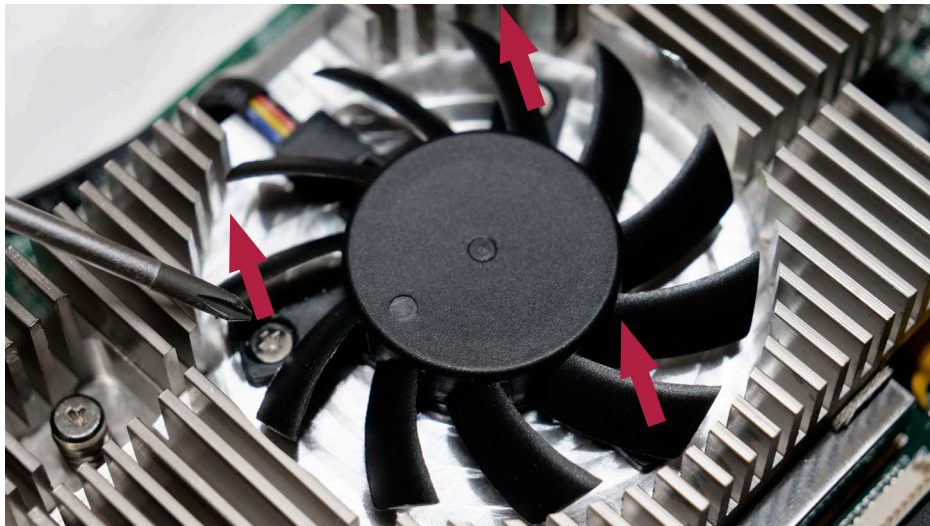

Figure 24 Remove the screws from the fan
b) Untighten the three screws holding the fan in place (see Figure 24)
- f) **Insert and tighten the three screws (max. torque 0.3Nm) holding the fan in place (see Figure 24)**